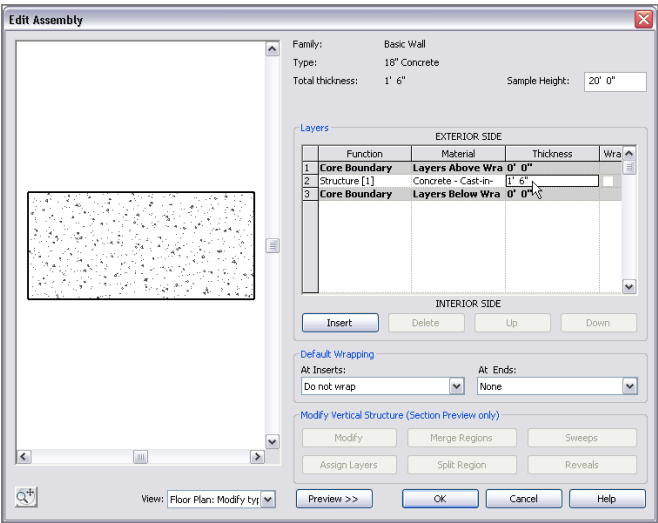

FIGURE 8.51: Changing the Material and Thickness settings
- 14. Change Thickness to 1'-6" (450mm) by typing 1(space)6, as shown in Figure 8.51.